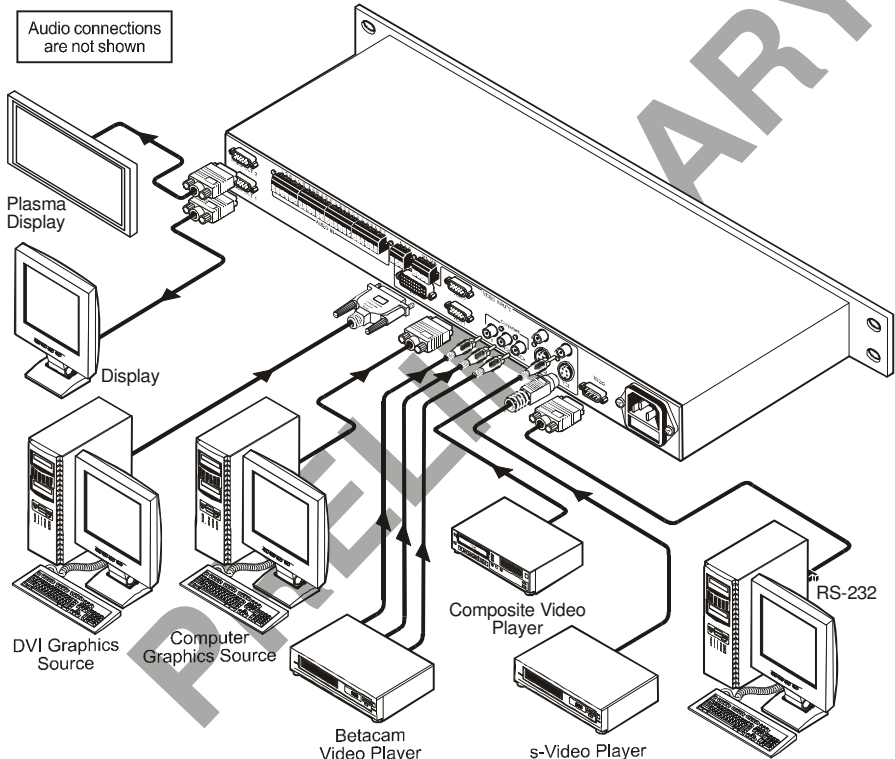

Figure 9: Connecting the VP-724xl Rear Panel
To connect the **VP-724xl** for example¹ (see Figure 9), do the following²:
2. Connect the stereo audio sources⁶ (not illustrated in Figure 9):
4 Alternatively, you can connect an RGB signal (not shown in Figure 9), as follows: Red to the Y connector, Green to the P_b/C_b connector, and Blue to the P_r/C_r connector
4. Connect the LINE AUDIO OUT terminal block connector to one of the audio acceptors, for example, speakers (not illustrated in Figure 9)
6. The power cord¹ (the power connector is not illustrated in Figure 9).